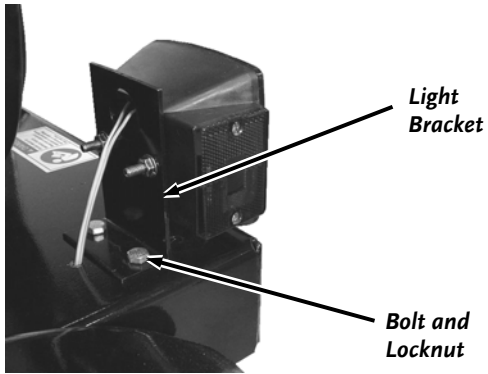

Figure 66
7. Attach both Light Brackets to the Frame with Bolts and Locknuts with two 1/2" wrenches (**Figure 66**).